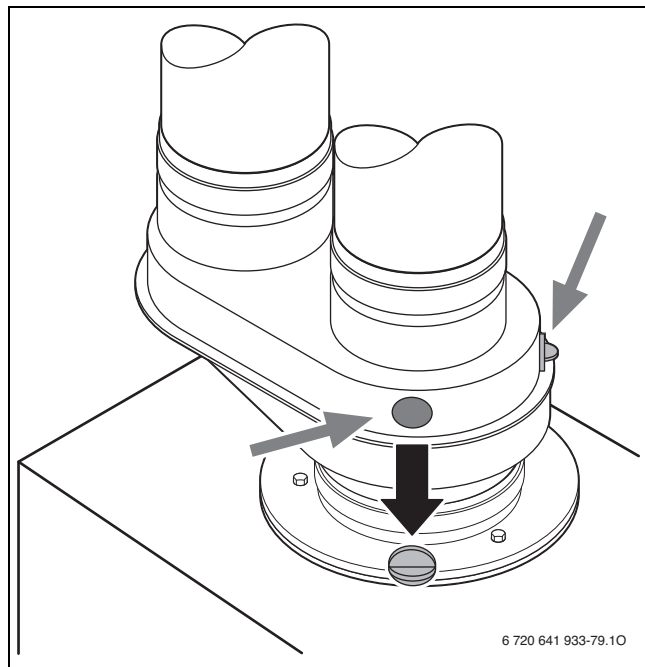

Fig. 80 Open one of the flue gas test ports
- ▶ Remove plug from flue gas test port (→ Fig. 80).